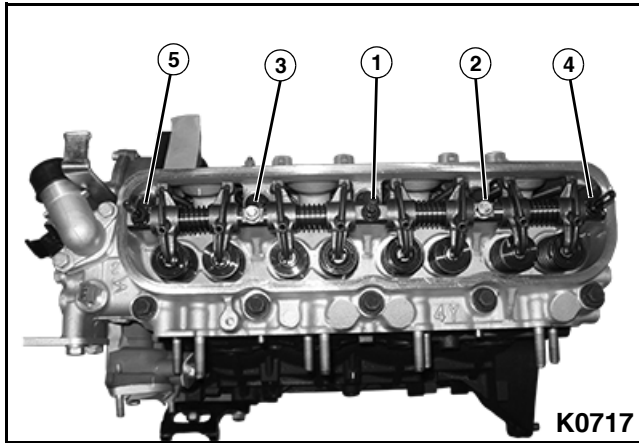

Figure 3-133: Rocker Arm Assembly Tightening Sequence
6. Tighten the rocker arm fasteners in the sequence shown in several steps to specification. **See Figure 3-133.**